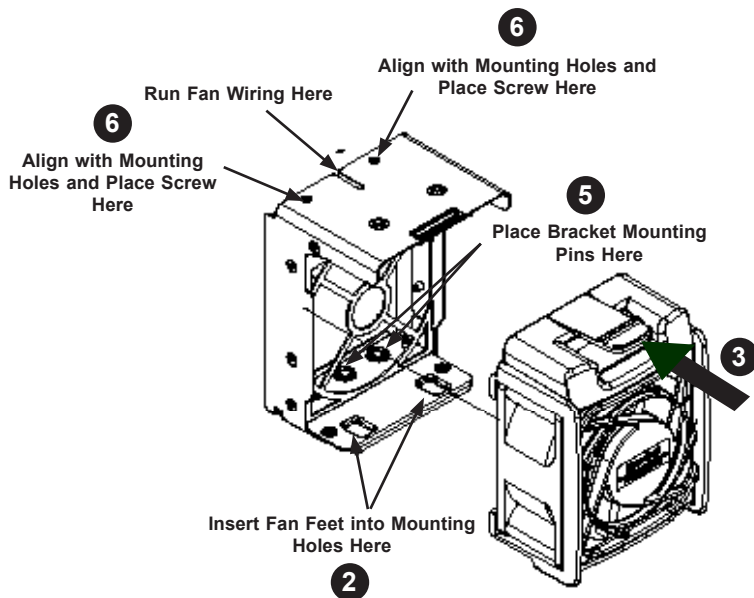

Figure 6-15. External Rear Fan Bracket Mounting Pin Placement
2. Press the release tab on the top of the fan and pull the fan from the bracket. See Figure 6-15.